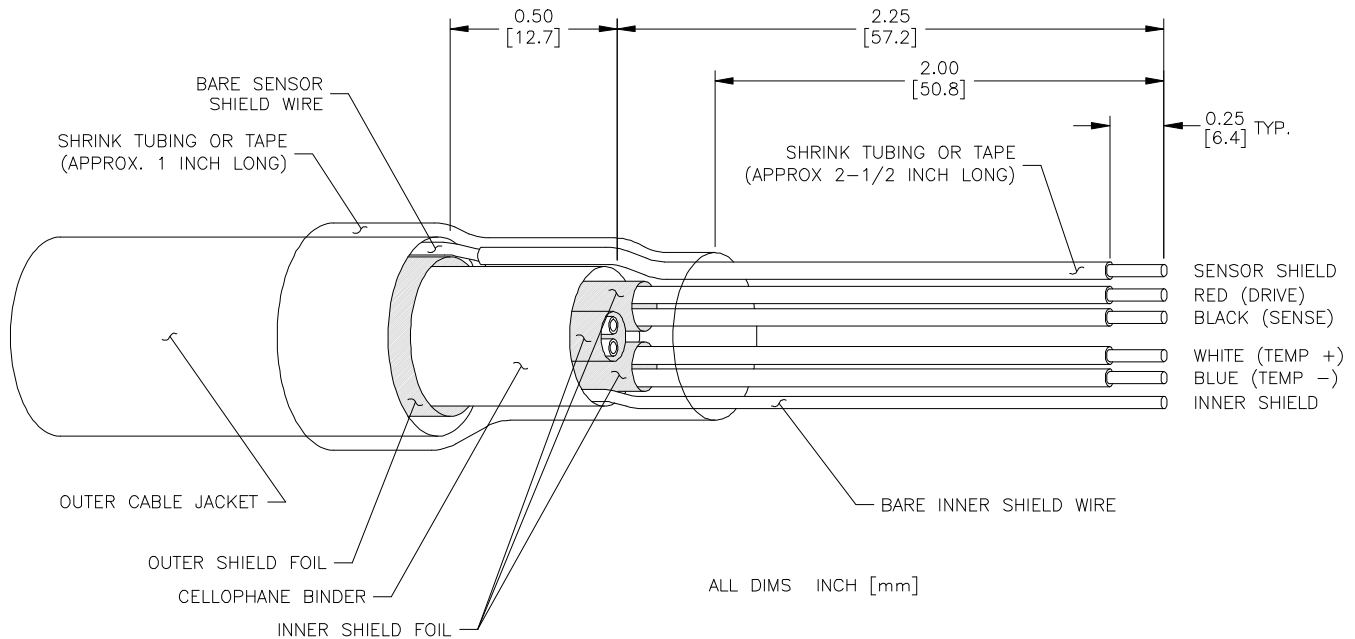

FIGURE 2-3 Interconnect Cable Termination Details
To correctly terminate the ends of the interconnect cable, refer to Figure 2-3 and follow this procedure:
5. Carefully position a 2-1/2 inch long piece of shrink tubing or tape on the bare sensor shield wire 1/4-inch from the end as shown in Figure 2-3 to insulate and distinguish it from the inner shield wire. Doing this exposes 1/4-inch of bare shield wire beyond the tubing or tape for connection purposes.
6. Carefully position a 1-inch long piece of shrink tubing or tape on the cable as shown in Figure 2-3 to secure all wires.